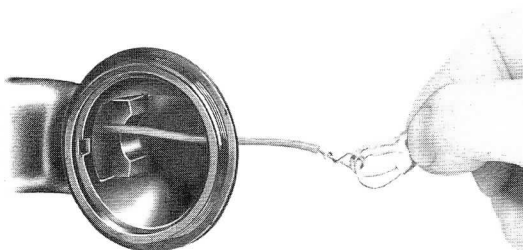

Fig. 32 — Feeding Cord into Handle Assembly
- (1) Using a stiff piece of wire, make a loop in the end (Fig. 32).
- (2) Feed wire through handle.
- (3) Place ends of receiver conductors through loop and feed into handle while pulling in from other end.
- (4) Dress excess receiver lead length into receiver bowl so that seat is clear.